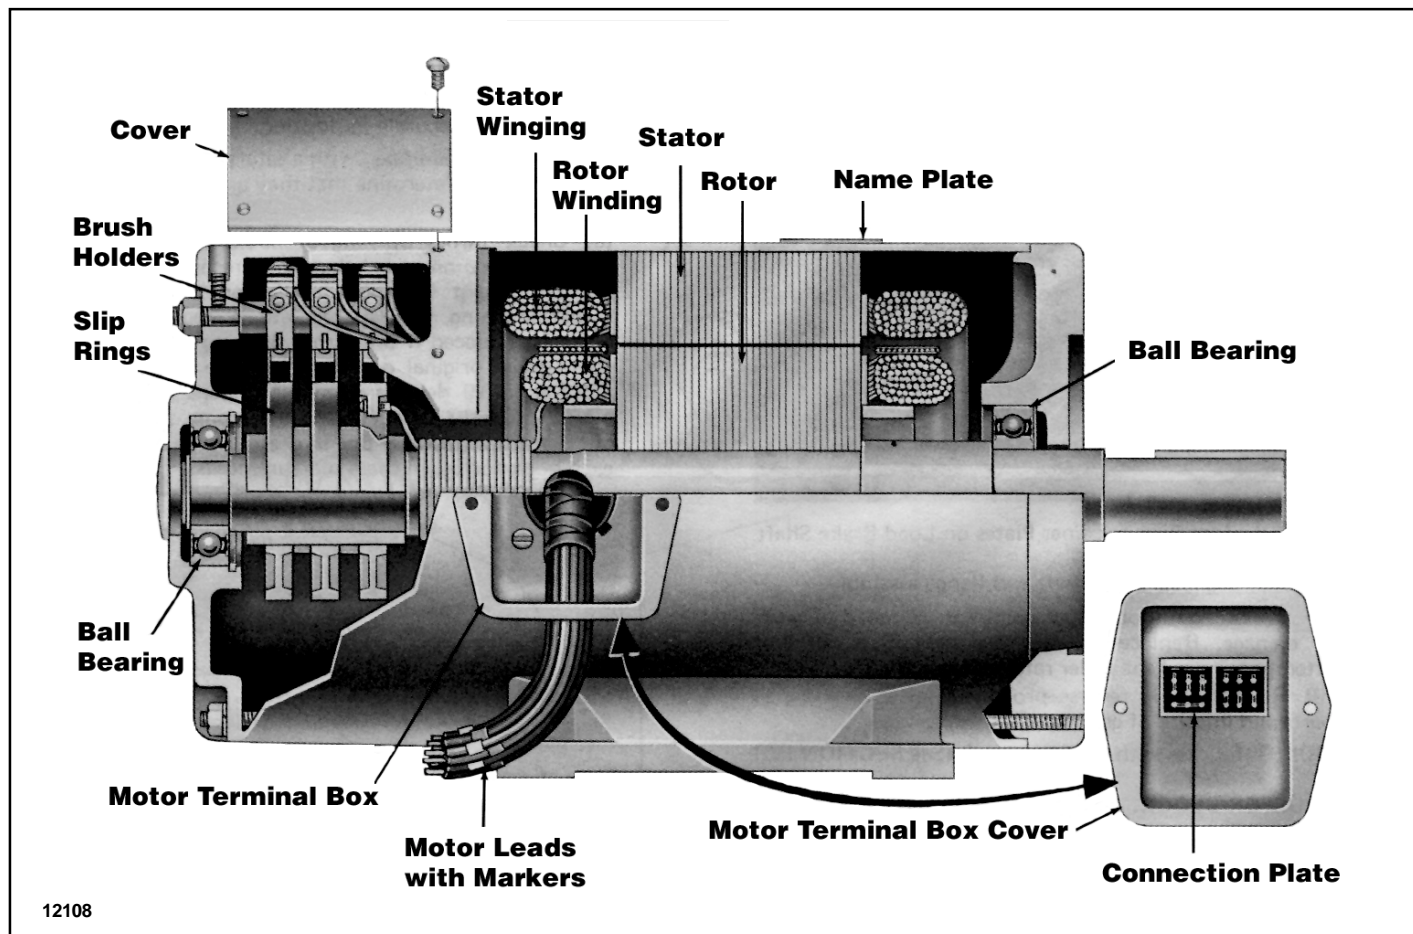
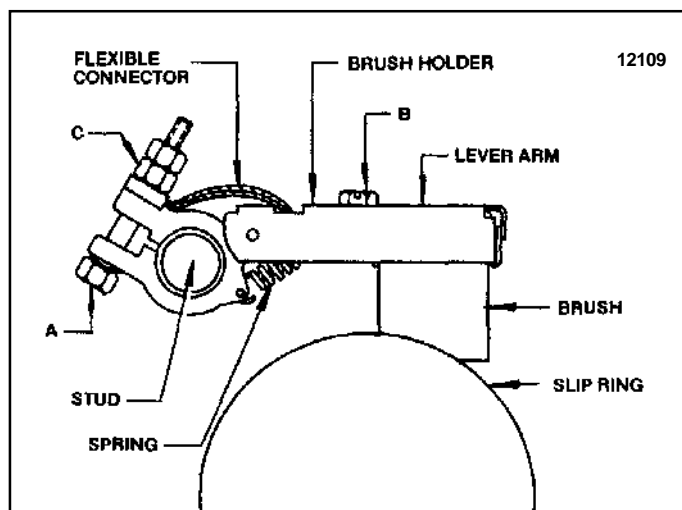

Figure 9-1. Cutaway View of Typical WOUND Rotor Motor
Figure 9-2. Brush Holder with Brushes
(2) Coils. Revamping windings when machines are overhauled will lengthen their life.
(3) Brushes. Figure 9-1 is a cut-away view of a typical wound rotor motor showing brushes, brush holder, slip ring, etc. Figure 9-2 shows a typical brush holder with brush. (Details may be different for motors by other manufacturers.)
To adjust brush pressure on slip ring, loosen or tighten nut A (see Figure 9-2) until concave surface of brush makes good contact with slip ring.
To replace brushes, use following steps (see Figure 9-2):
(4) Slip Rings. Slip rings of a wound rotor motor (see Figure 9-1) must be kept clean, smooth and concentric. They can be cleaned by a fine sandpaper or any commercial electrical cleaning solvent.